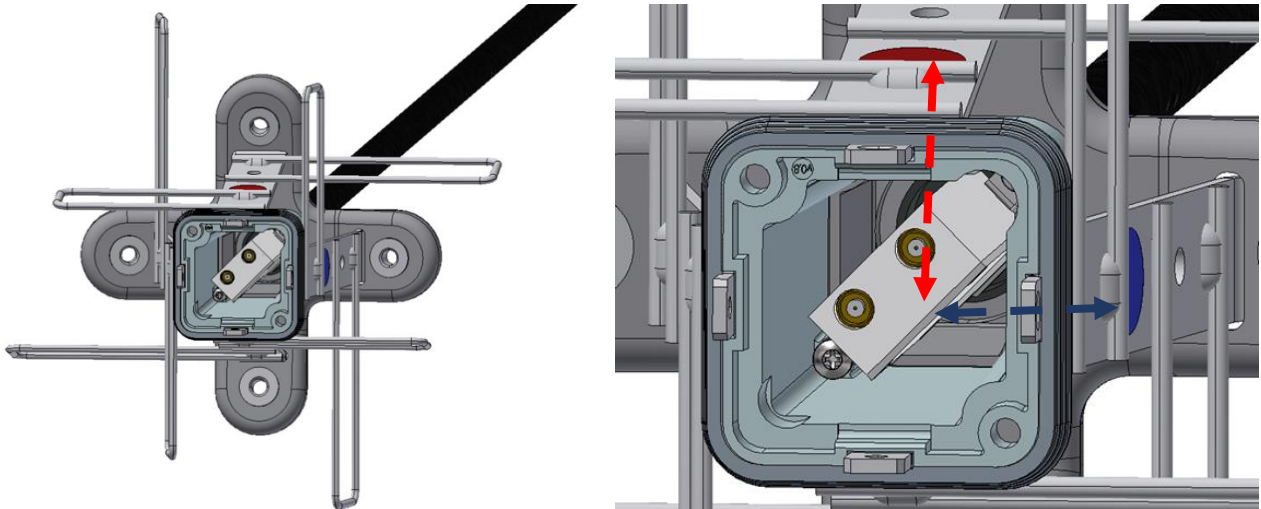

Figure 5: FEM correct position inside the trumpet assembly.
8. Insert the FEM inside the trumpet with the orientation explained in Figure 5 (the cover must be in front of the blue dot, and opposite to the red dot).